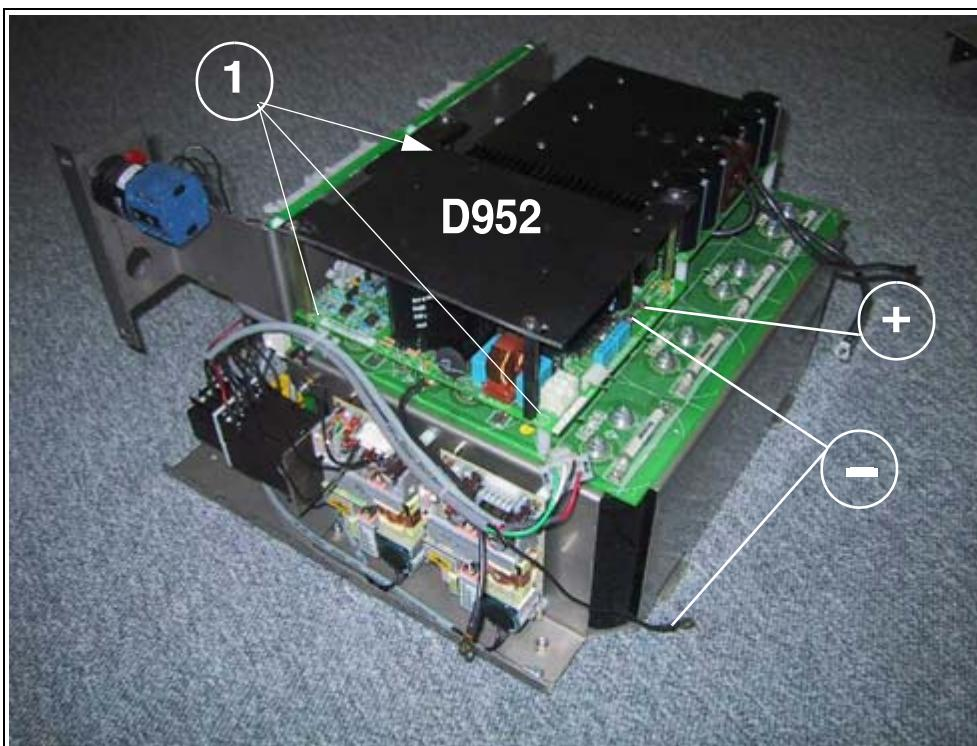

Fig. 31: D952_capacitor charger_ _01
- If possible, measure the voltage at the capacitor connection screws of board D972 and at the connection screws of D952 (+/- Fig. 31 / p. 44).
- Loosen the two contact points (+/- Fig. 31 / p. 44) of board D952.
- Loosen the three mounting screws (1 / Fig. 31 / p. 44) and replace the board.
- First tighten the three mounting screws and then the two connection screws - reconnect the "Minus" cable (- / Fig. 31 / p. 44).